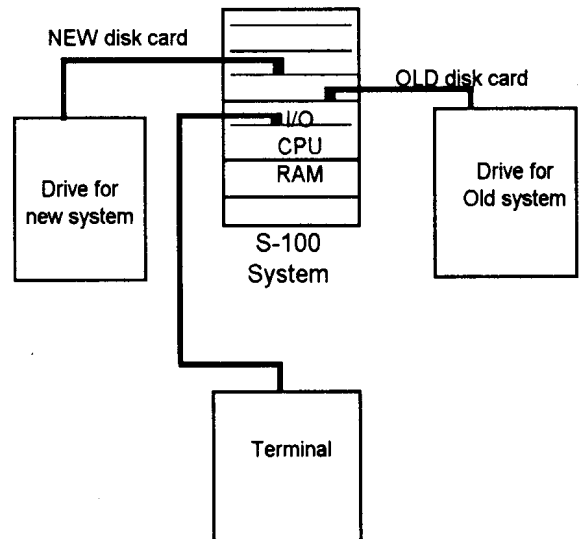

Figure 3: hardware configuration for development. Two disk controllers, two drives.
4) You have (at least) one drive for the original controller, and one drive for the test controller. You can do this on your current two-drive system by disconnecting the second drive from the disk controller cable, changing the drive's address (usually from "drive 1" to "drive 0") and attaching that drive to the second controller. See figure 3 for the layout. (Hint: this scheme allows you the option of flopping the second drive between either of the two systems, as restoring two drives to your original controller will speed up development.)